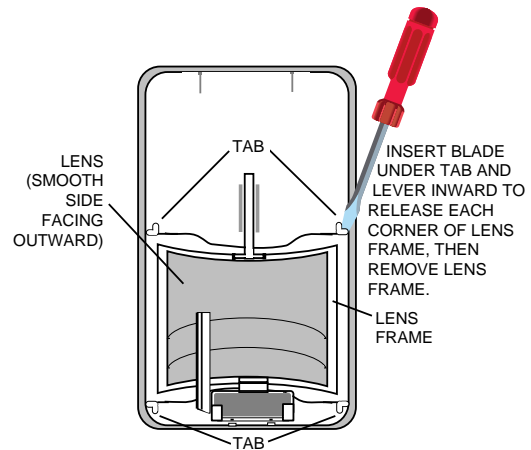

Figure 4. Changing Lenses
2. Release the lens support frame in front cover as follows: Insert the blade of a small screwdriver between the locking tab and the detector case in each of the four corners of the frame, and lever each tab upward to release. See Figure 4. When all four corners are released, remove the lens support frame.
3. Remove the existing lens and replace with the replacement lens. **The lens must be installed with the smooth side facing outward. Also, the lens should be oriented with its part number on the upper right-hand side (see Figure 4).** Be sure to center the lens.
- Release the lens frame as shown in Figure 4.